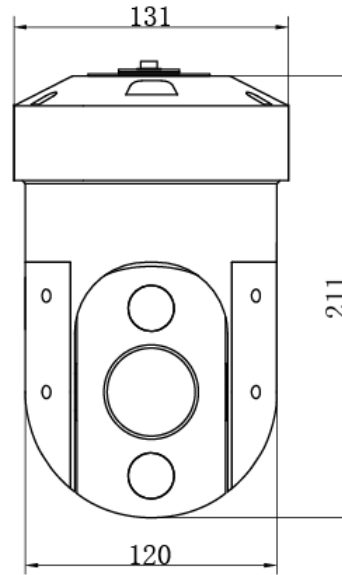

Figure 2
**4. Setup of the Baud Rate of Communication.** As shown in Figure 2, J8 is used to set the protocol of communication and the baud rate used by the dome camera. DIP-6 and DIP-5 of